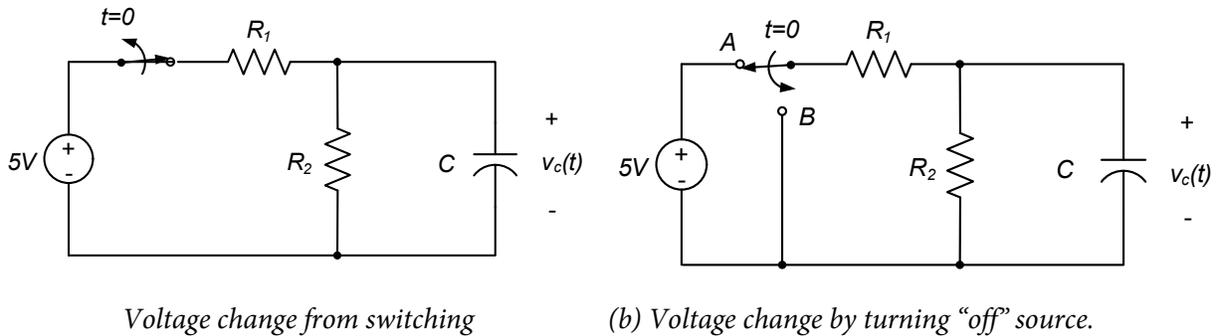

Figure 2. Models of physical approaches to reducing applied voltage.
- a. We will use a voltage source to apply the initial 5V, and physically open a switch to reduce the applied voltage to 0V. This will result in the circuit as shown in Figure 2(a). Notice that in Figure 2(a), the voltage source is replaced by an open circuit.
- b. A voltage source will be used to apply the 5V source, as above. However, in order to reduce the applied voltage to 0V, we will simply turn off the voltage source. This approach will result in the circuit shown in Figure 2(b). Notice that in Figure 2(b), the voltage source is replaced by a short circuit.
Estimate the initial capacitor voltage, $v_c(t < 0)$, and the time constant for the circuits of Figures 2(a) and 2(b). Your solutions may be functions of R_1 , R_2 , and C .